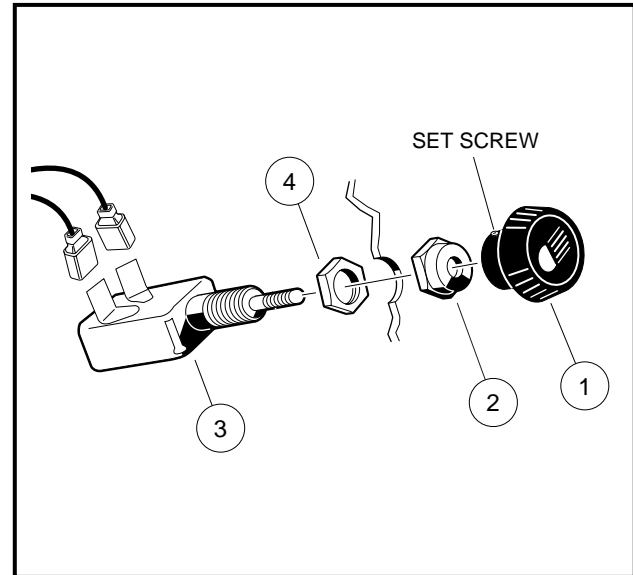

Figure 12-32 Light Switch
2. Loosen the set screw locking the light switch knob (1) to the shaft (**Figure 12-32, Page 12-30**).
5. Remove the outer nut (2) from the light switch (3) (**Figure 12-32, Page 12-30**).
2. Thread the check nut (4) onto the switch until an equal number of threads show on both sides. Insert the switch through the dash panel and install the nut (2) on the outside of the dash. Tighten the nut to 14 in-lb (1.6 N·m) (**Figure 12-32, Page 12-30**).